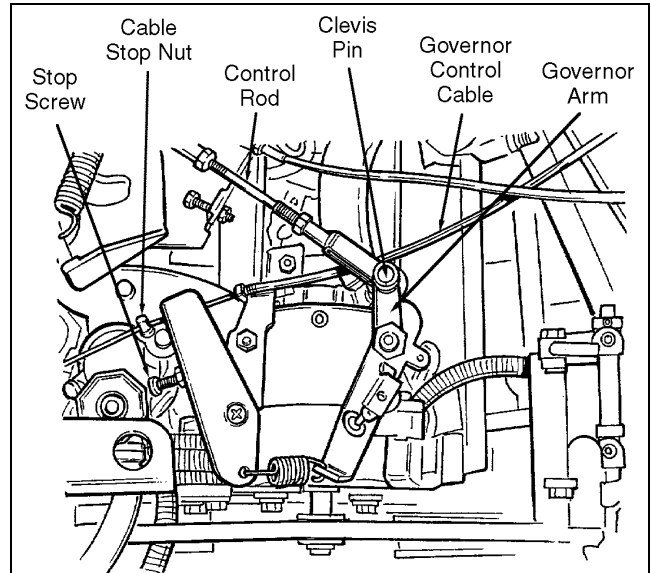

Figure 2C-15. RPM Adjustments
- Move the handle throttle lever to 'UP' (rabbit icon) position and move the governor control lever 'UP' or 'DOWN' until  $3600 \pm 50$  RPM is obtained. Tighten the governor stop screw (see Figure 2C-15) to lock the high RPM setting.